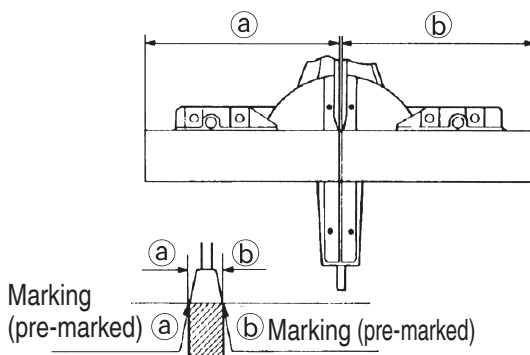

Fig. 15
- (1) As shown in Fig. 15 the width of the saw blade is the width of the cut. Therefore, slide the workpiece to the right (viewed from the operator's position) when length ⑥ is desired, or to the left when length ⑤ is desired.